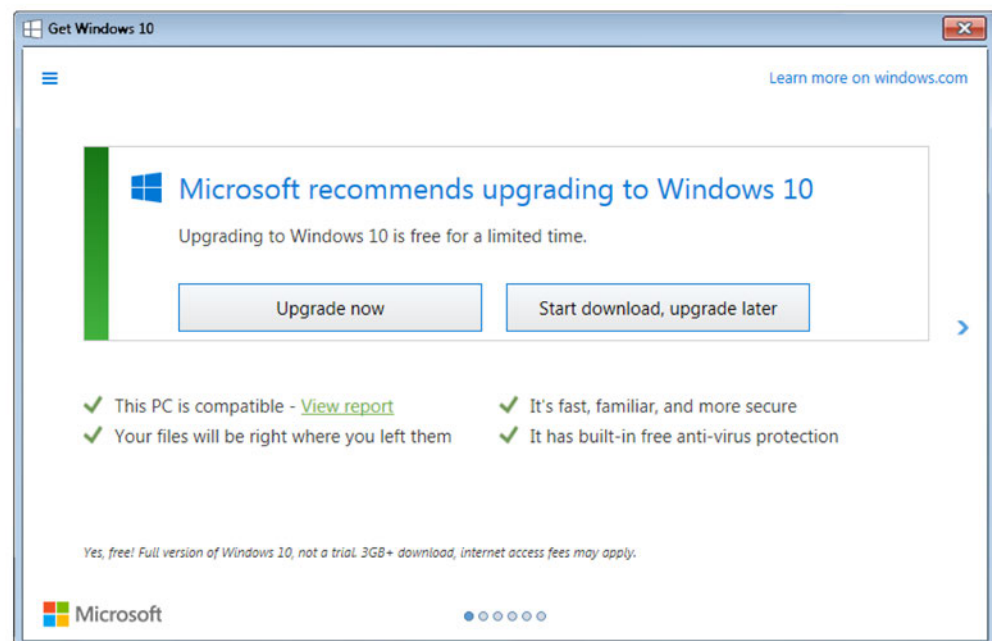

Figure G.69: Upgrade recommendation
- 2 When clicking on the icon the following window (see Figure G.69) is shown. Select **Upgrade now** to start the upgrade to Windows® 10.